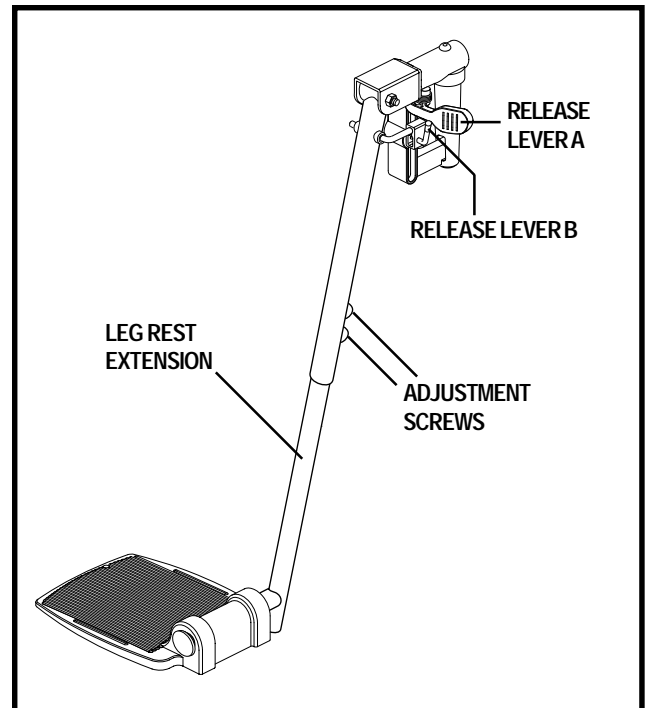

Figure 17. Elevating Leg Rests
1. Push in release lever A. See figure 17.
1. Remove the two adjustment screws from the side of each leg rest extension. See figure 17.
1. Push down release lever B. See figure 17.